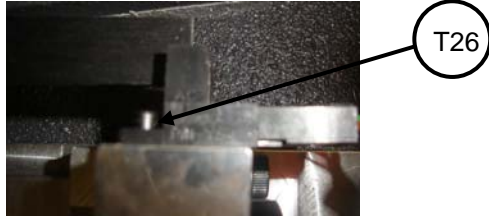

Fig.51
- 3) Release the two screws (T26) that fasten the sensor. (Fig.51)